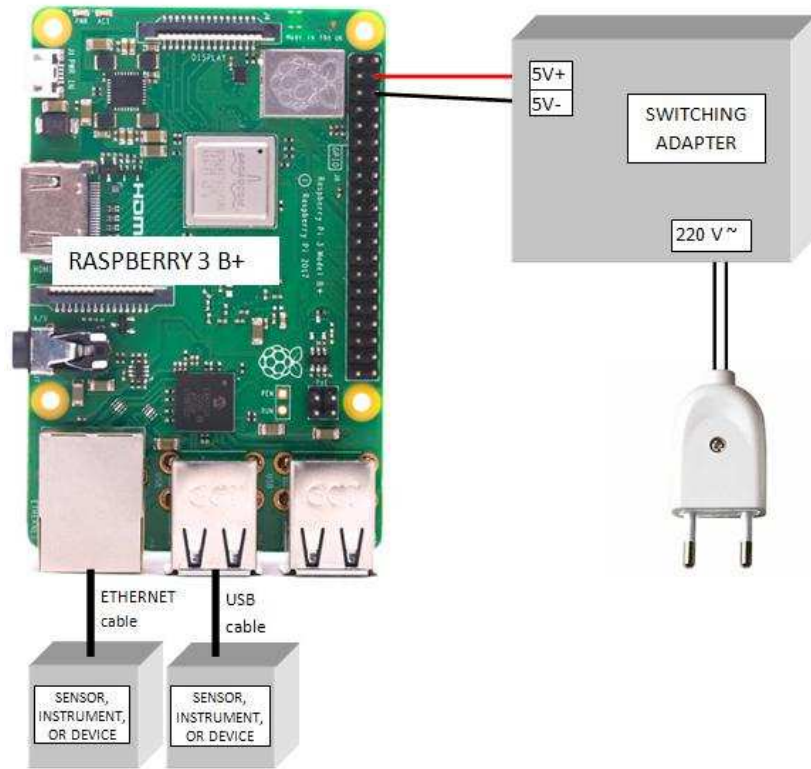
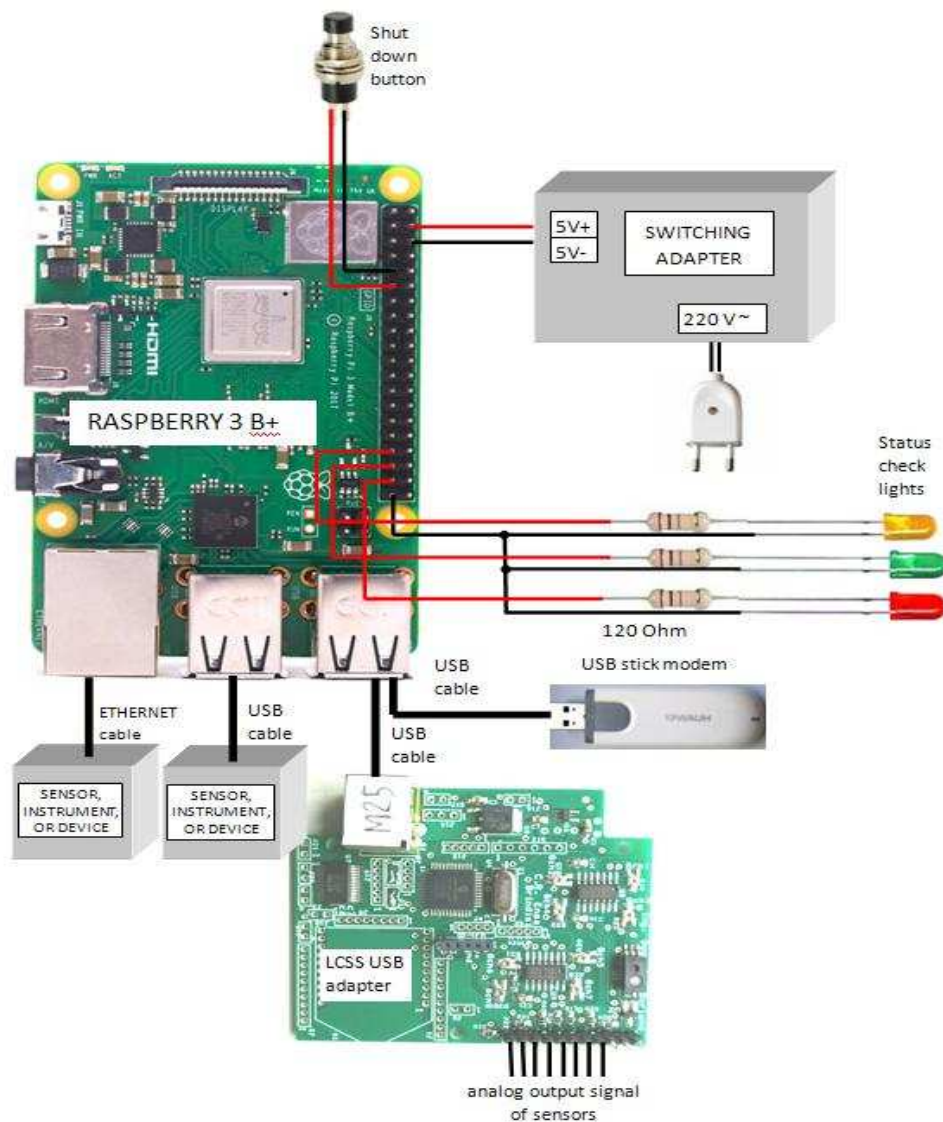

Figure 2: *SentinAir* hardware minimal configuration.
Figure 3: *SentinAir* hardware typical configuration.
*SentinAir* is a modular and flexible system. The system hardware can be assembled in a minimal (see figure 2), or a typical configuration (see figure 3). The minimal hardware is composed of:
- a 5V power source capable of providing a direct current of 3A maximum. At the moment, the system has been tested with a switching ac/dc adapter (see figure 2).
The typical hardware configuration of a *SentinAir* system is shown in figure 3, and it is composed of: